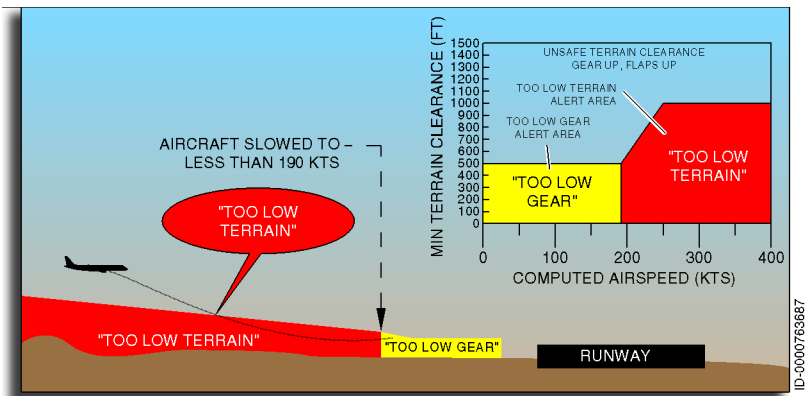

Figure 20-8
- Mode 4A, shown in Figure 20-8, is active during cruise and approach with gear not in landing configuration
As shown in Figure 20-8, the standard upper boundary for Mode 4A is at 500 feet radio altitude. If the aircraft penetrates this boundary with the gear still up, the voice aural is **"TOO LOW GEAR."** Above 190 knots, the upper boundary increases linearly with airspeed to a maximum of 1,000 feet radio altitude at 250 knots or more. Penetrating this boundary produces a **"TOO LOW TERRAIN"** aural.